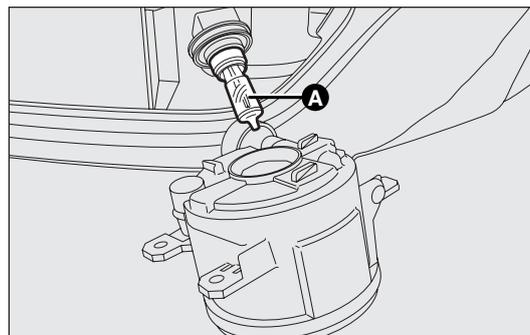

fig. 168
- remove the bulb A-fig.168 by rotating it counter-clockwise and disconnect the electrical connector.